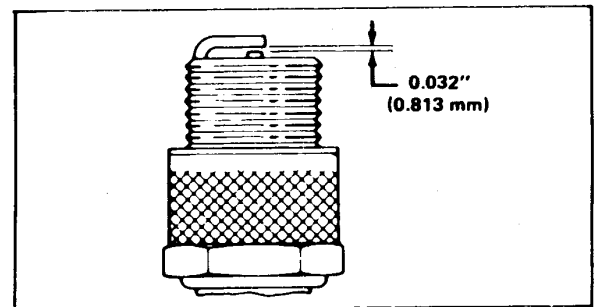

Figure 2-6
4. Set the air gap to .813 mm (.032 in.). See Fig. 2-6. Install the plug and tighten it to 2 Kg-m (15 ft-lbs).